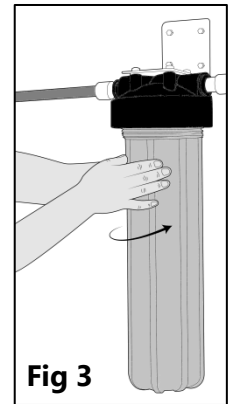

Fig 3
- Hand-tighten only (Fig 3). **CAUTION: DO NOT USE WRENCH TO TIGHTEN THE SUMP.** The wrench is to open the sump only